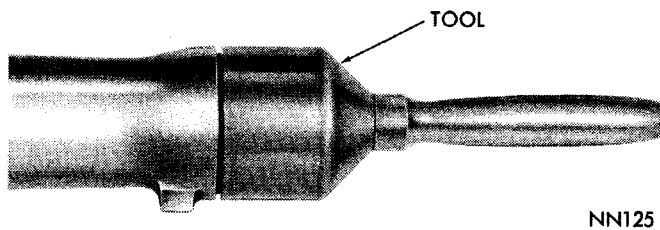

Fig. 8—Installing Extension Housing Yoke Seal
(4) To install a new seal, position seal in opening of extension housing and drive it into housing with Tool C-3972 or with Tool C-3995 for small yoke extension (Fig. 8).
(5) Carefully guide front universal joint yoke into extension housing and on the mainshaft splines. Align marks made at removal and connect propeller shaft to rear axle pinion shaft yoke.
(6) Fill transmission to level of fill plug. (Refer to Lubrication Group "O").